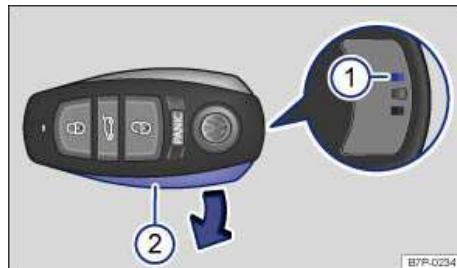

Fig. 24 Removing battery cover from the remote control vehicle key.
The battery is in the remote control vehicle key under a cover ⇒ fig. 24. When changing the battery, pay attention to the correct polarity and use the same type of battery ⇒ ①.
- Insert the thin left side of the cover ⇒ fig. 24 \(2\) in the remote control vehicle key and press the thick right side down until the cover locks into place.